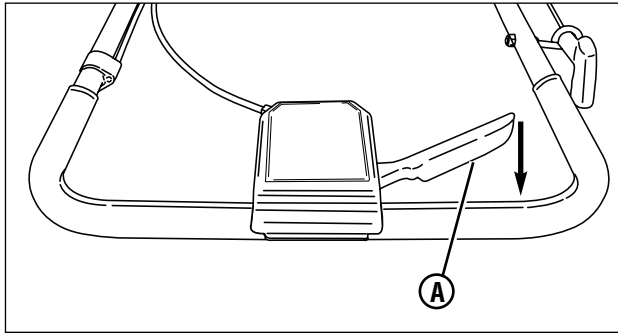

Figure 4: Wheel drive control
2. Begin squeezing the wheel drive control (**A, Figure 4**) back toward the handle to engage the wheel drive and propel the mower forward. Forward speed can be increased by squeezing the wheel drive control further back toward the handle.